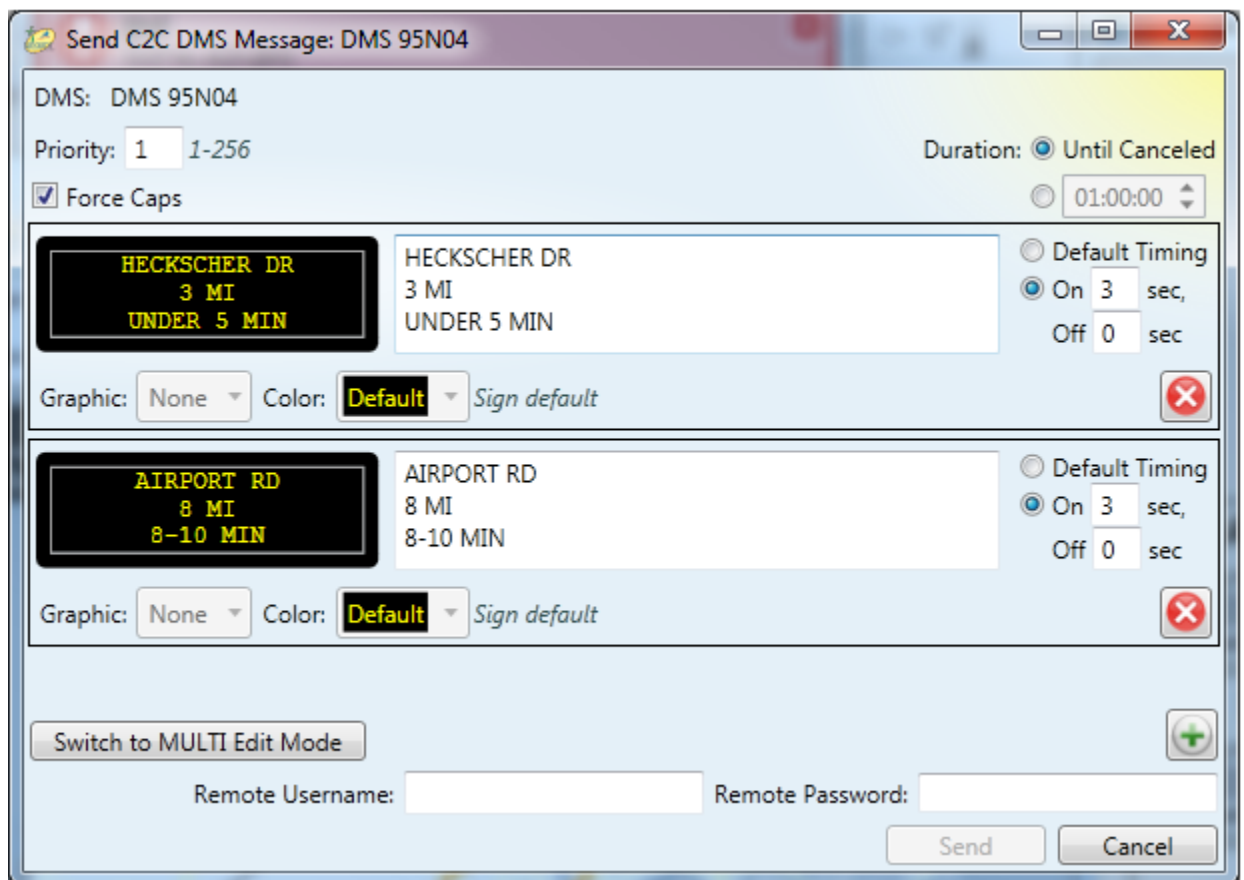

Figure 3-57 – C2C DMS Status
- **Detailed Status:** Selecting this button will cause a more detailed status screen to be displayed; this dialog is shown in Figure 3-57.